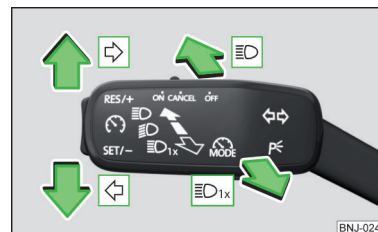

Fig. 55
Control stalk positions » Fig. 55
- Press the control lever all the way into position  or  until it stops » Fig. 55 on page 61.